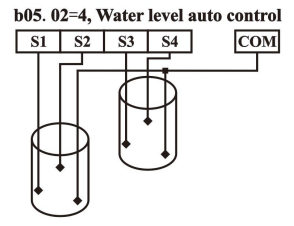

Figure 7.1.1 Single pump water supply system wiring
- Pressure Transducer in the figure 7.1.4 adopt two-wire current (0~20mA input) type, if adopt voltage type (1~5V input), please refer to wiring of figure 7.1.1.